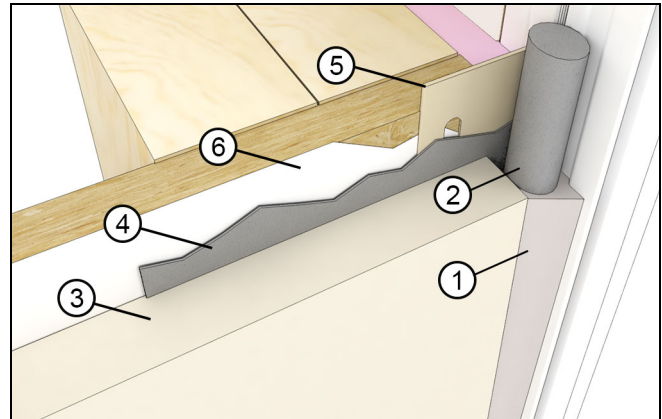
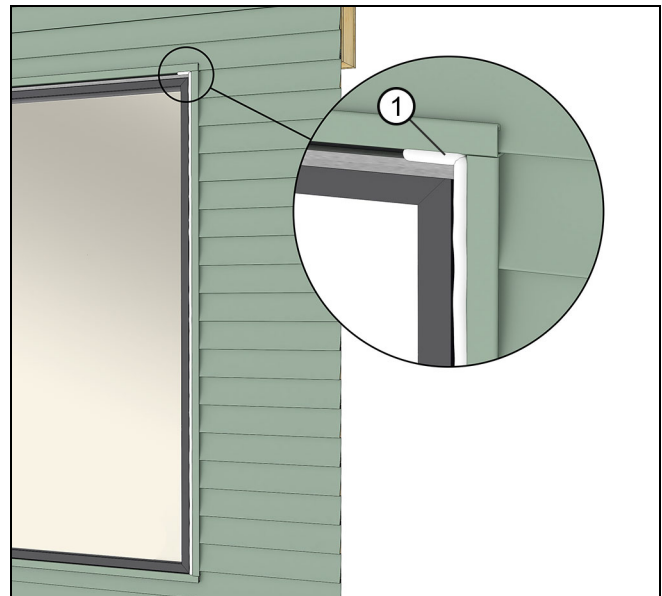

Figure 53
Figure 54
3. At the exterior, once the exterior finish such as siding or brick veneer is installed, apply a bead of sealant between the finish and the frame exterior along the sides. Apply additional beads approximately 1"-2" (25-51) at the ends on top of the head jamb flashing. Use a backer rod when necessary. See Figure 53 and Figure 54.